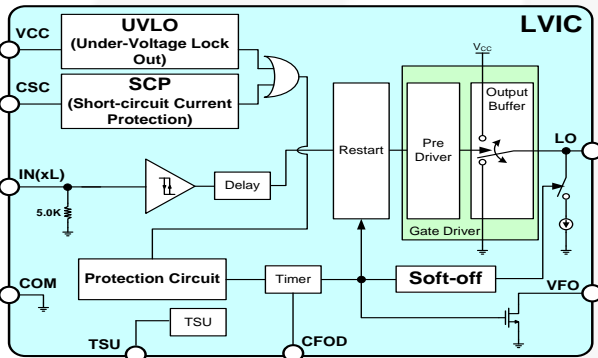
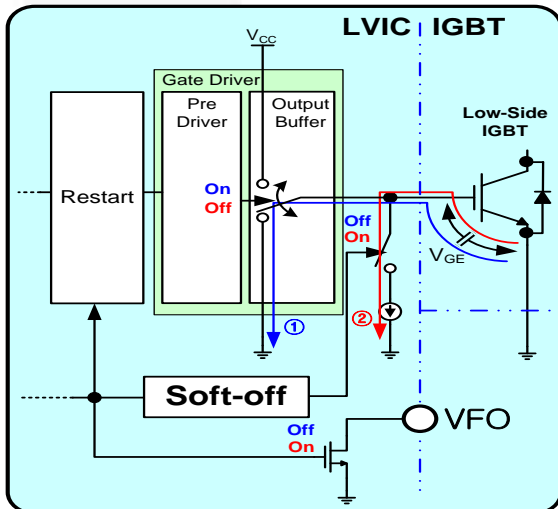

Figure 26. Internal Block Diagram of LVIC
Figure 27. Operating Sequence of Soft Turn-Off
An internal block diagram of LVIC is shown in Figure 26. The operation sequence of soft turn-off is shown in Figure 27. This function operates by two internal protection functions (UVLO and SCP). When the IGBT is turned off in normal conditions, the LVIC turns off the IGBT immediately by turn-off gate signal (IN(xL)) of the gate driver. The gate is discharged through the output buffer ①. When the IGBT is turned off by a protection function, the gate driver is disabled by the protection function signal and the protection circuit enables the soft-off function. V_{GE} (IGBT gate-emitter voltage) is discharged slowly through the soft turn-off path ②.